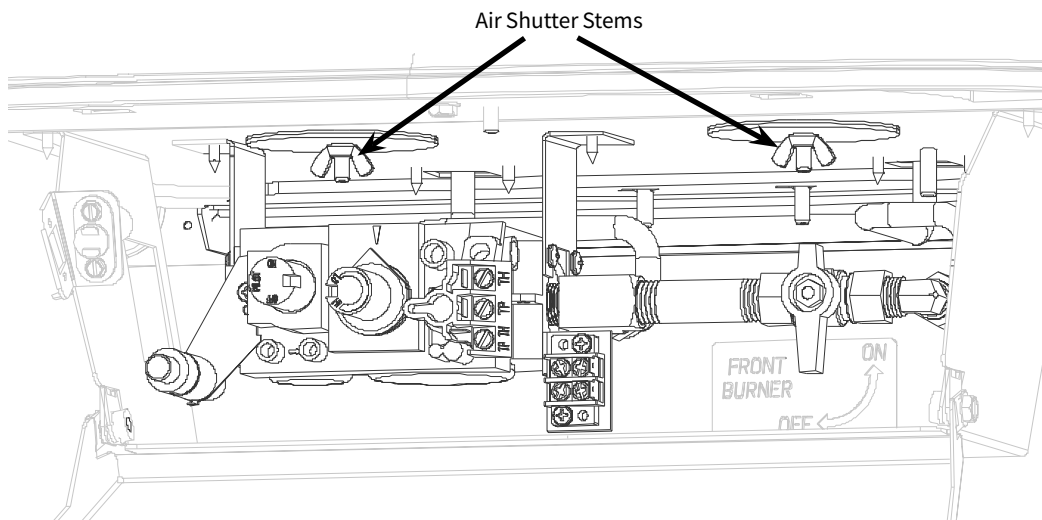

Figure 5.8. Pull the shutter stems forward to increase primary air. Push back to restrict air.
**16. Adjust the Air Shutters. Fig. 5.8**